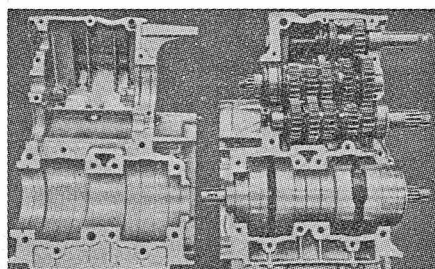

**Fig. Y8-20 — Exploded view of the kick starter assembly. Gear (11) meshes with first gear (19 —Fig. Y8-22).**
**CRANKCASE AND GEAR BOX.** To separate the crankcase halves, first remove the generator and output sprocket from left side. Remove the clutch assembly and the oil pump and primary drive gears from the right side of engine. Remove the sealing boot (3 Fig. Y8-19), snap ring (4), shims (5) and washer (6) from the left end of the gear change shaft, then remove the change shaft and linkage from the right side of engine. Remove the shift detent (13) and retainer plate (15). Remove kick starter spring guide (4—Fig. Y8-20) and return spring (5). Turn the crankcase assembly upside down, remove the attaching screws and carefully separate the crankcase halves. The gears and shafts